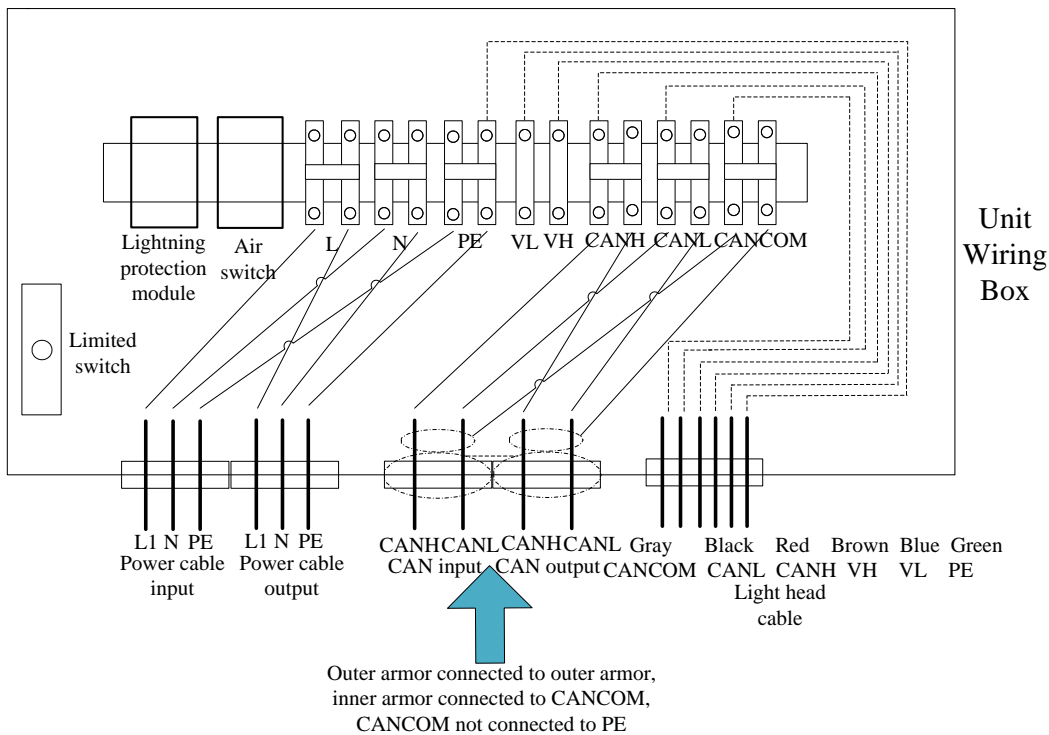

Figure 3.5 Wiring Method of Single Phase Power Supply of the Unit Wiring Box and CAN Bus Communication
- The light head cable is consisted of six-color wires. Connect the wires to the corresponding terminal blocks of the unit wiring box according to the sequence of gray (CANCOM), black (CANL), red (CANH), brown (VH), blue (VL), green (PE), and tighten the screws to ensure good contact, as shown in Figure 3.5.